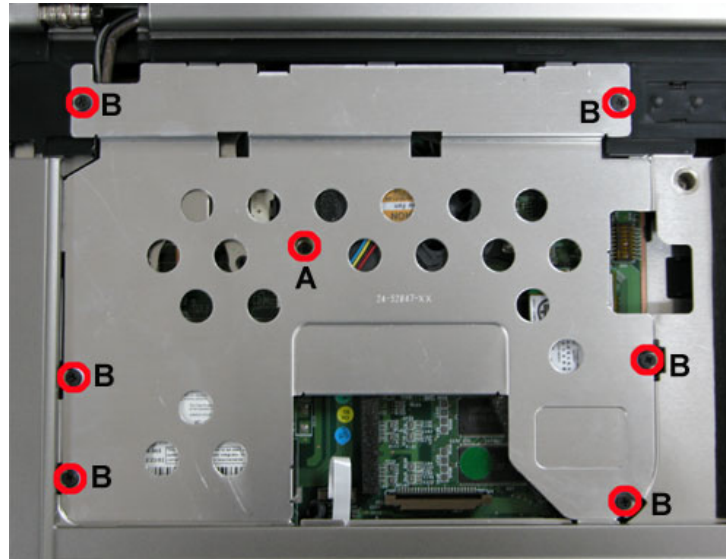

Fig. 15 Removing the screws retaining Heat Plate
1. Remove the screws retaining the Heat Plate as shown in Fig. 15